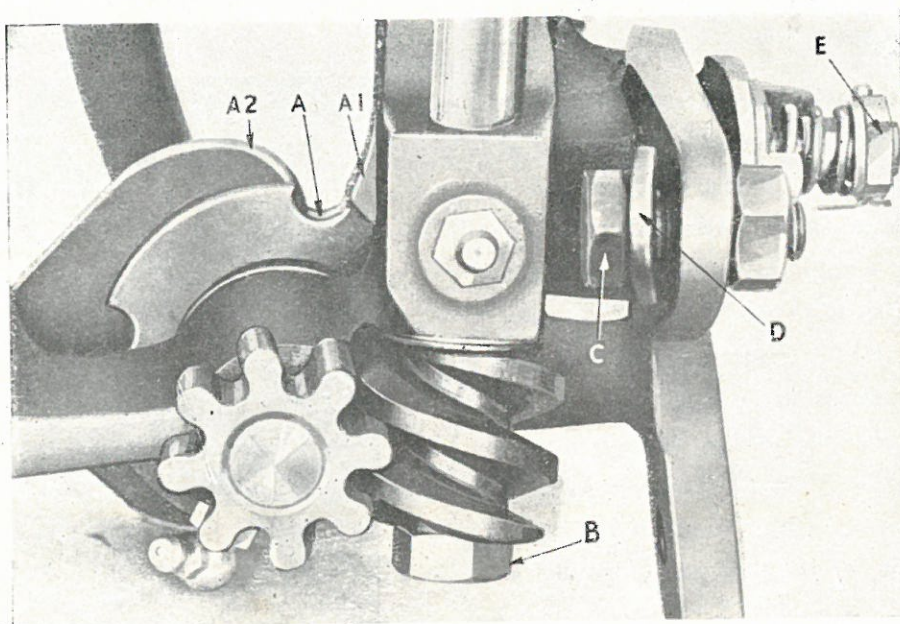
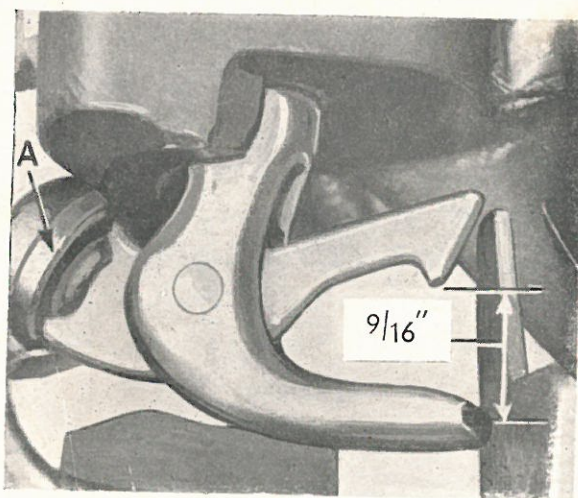

Fig. 4
Fig. 5
The Twine Holder consists of a double plate which holds the Twine in the Disc, pressure is applied to the Twine Holder plates by a flat spring D, and is adjustable by screwing up tension screw C (Fig. 4).
The correct adjustment of the beak is essential, the correct measurement between the Beak Tongue and the Beak Jaw when fully open should be $\frac{9}{16}$ " (Fig. 5). Should it be found that the Beak does not open to this measurement, this could be caused by the Beak Tongue Roller not turning when the Beak rotates, with the result that a flat surface is formed on the Roller point A (Fig. 5). The Knotter Beak should be free from all roughness, and if a Knot fails to come off, care should be taken so that the beak is not cut or scratched when using knives or any other sharp instrument to remove the knot. The tension on the Beak is applied by screwing up nut E, (Fig. 4). Normal tension should be put on the Beak. If excessive pressure is applied, the Knot cannot be stripped off the Beak.
- Check :* (a) Twine Holder Tension—this is increased by tightening up Screw C, (Fig. 4). Before increasing this tension check that Holder is free from twine fibres, foreign materials and excessive grease or oil.